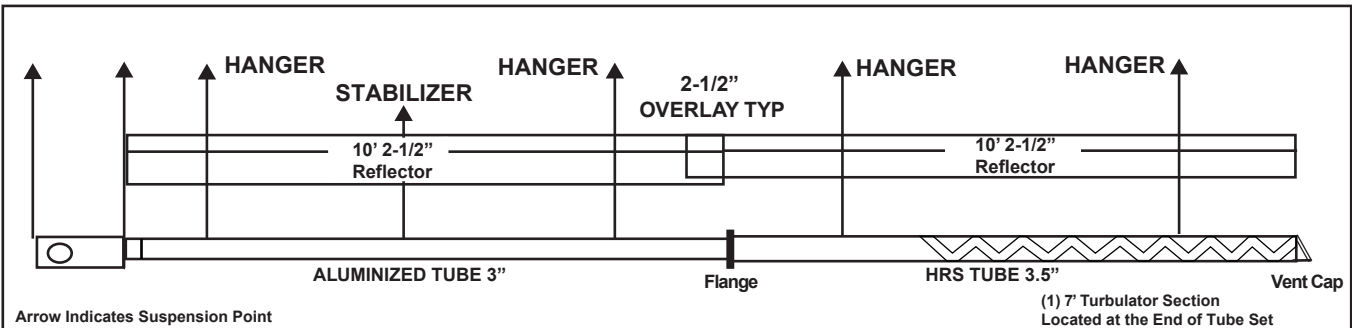

Figure 2A JET20
- Plan location supports (see Figure 2A-B starting on page 6).
Assemble the heater components as shown in Figures 2A, 2B. Install appropriated suspension hardware, beam clamps, chain or rod at predetermined locations. Adjustment of chain length will provide uniform pitch.